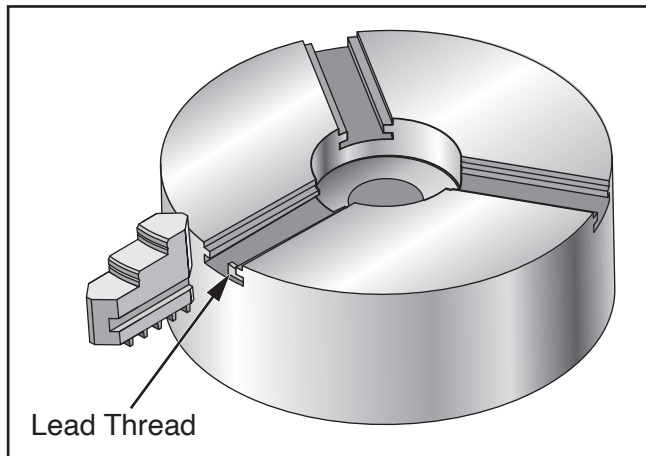

Figure 19. Lead thread on scroll gear.
5. Rotate scroll gear chuck key clockwise until you see tip of outer scroll-gear lead thread begin to enter jaw guide (see **Figure 19**).